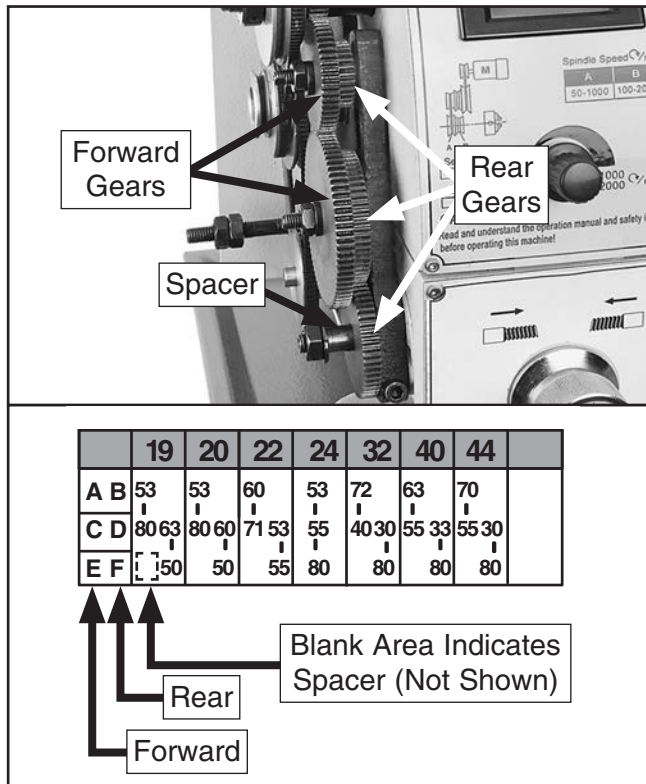

Figure 69. Identification of forward and rear gear positions.
Each shaft has room to mount gears in two positions—forward and rear (see **Figure 69**).
Both positions must be filled for the gears to work properly. This also applies to the "blank" areas on the chart, such as the one left of the 50T (F) gear shown in **Figure 69**. A spacer should be installed in this position on the shaft. A spacer is not listed because chart only reflects ACTIVE gear positions.